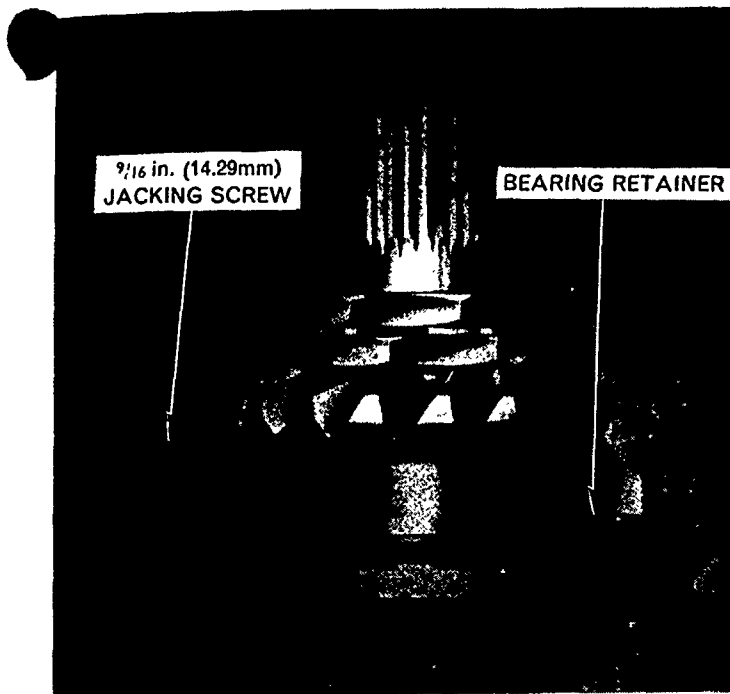

Figure 26
2. Remove the five remaining bolts and lockwashers securing the drive pinion assembly to the rear axle centre housing and, using two $\frac{9}{16}$ in. N.C. bolts as jacking screws, remove the drive pinion assembly, Figure 26.